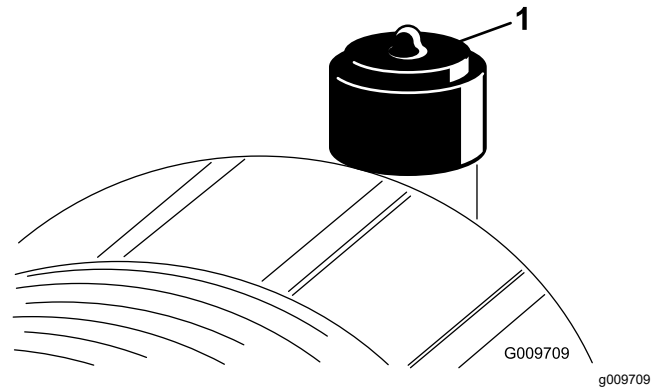

Figure 84
Service the air-cleaner filter only when the service indicator (Figure 84) requires it. Changing the air filter before it is necessary only increases the chance of dirt entering the engine when the filter is removed.
9. Reset the indicator (Figure 84) if it shows red.